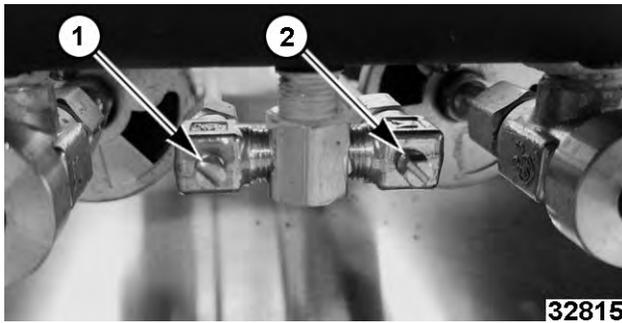

Fig. 107
3. Locate pilot adjustment screw (1-Rear, 2-Front, Fig. 107).